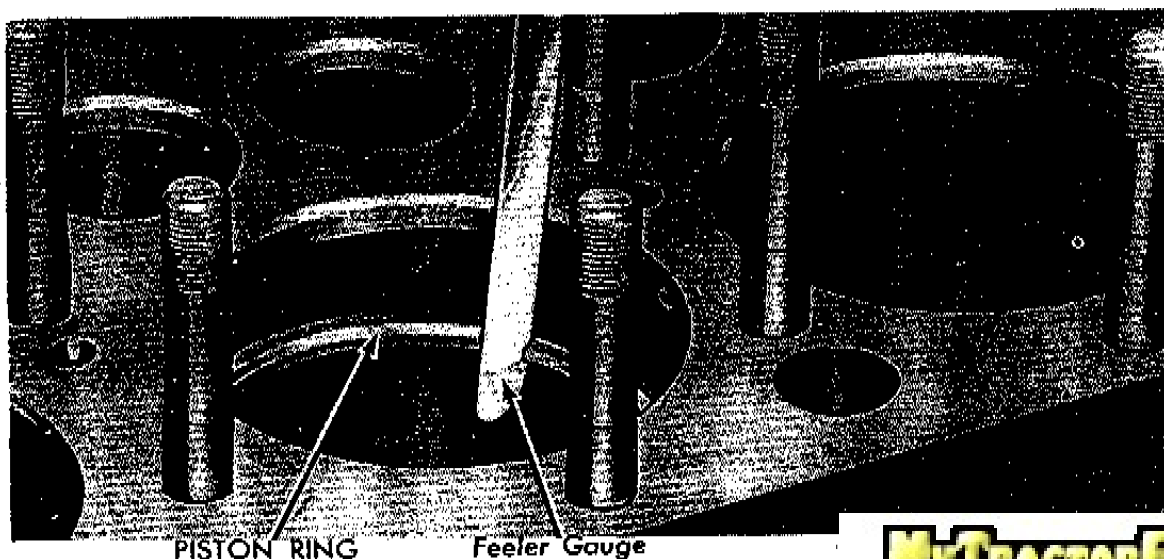
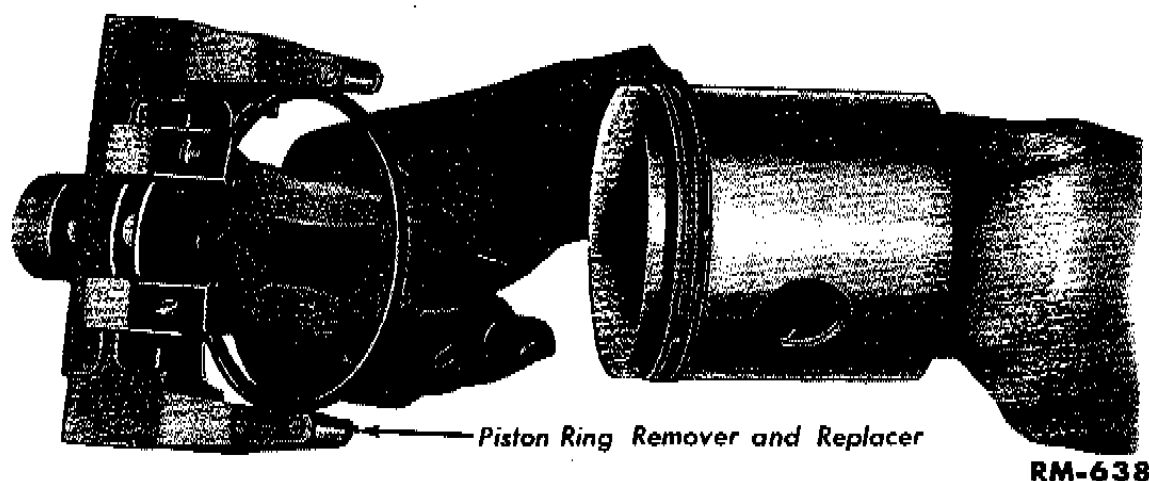

Fig. 23—Measuring Piston Ring End
Fig. 24—Installing Piston Ring on Piston
e. Fitting and Installing Piston Rings. Place a new piston ring in the cylinder, and press it about half-way down into the cylinder bore with the bottom of a piston so the ring will be square with the cylinder wall. Measure the ring end gap with a thickness gauge (fig. 23). If the gap is less than 0.012 inch, remove the ring. Place the ring in a jig, and file it with a fine cut file until the correct gap (0.012 to 0.017 inch) is established. If the gap exceeds 0.035 inch, an oversize ring must be used. Roll the new piston ring around its groove in the piston. The top ring should roll freely and not have a clearance of less than 0.0015 inch or more than 0.0035 inch. The lower rings should roll freely and not have a clearance of less than 0.001 inch or more than 0.004 inch. Install the piston ring on the pistons with a piston ring expander (fig. 24). Repeat the entire above procedure for each piston ring